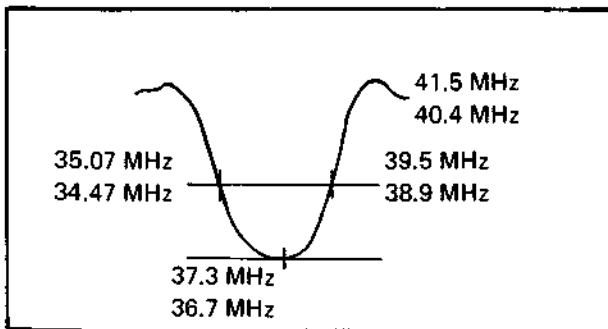

Fig. 6-51
10. Adjust the core T102 to tune the adjacent sound trap to the 41.5 MHz (HR-3330EK), 40.4 MHz (HR-3330EG) marker as shown in Fig. 6-51.